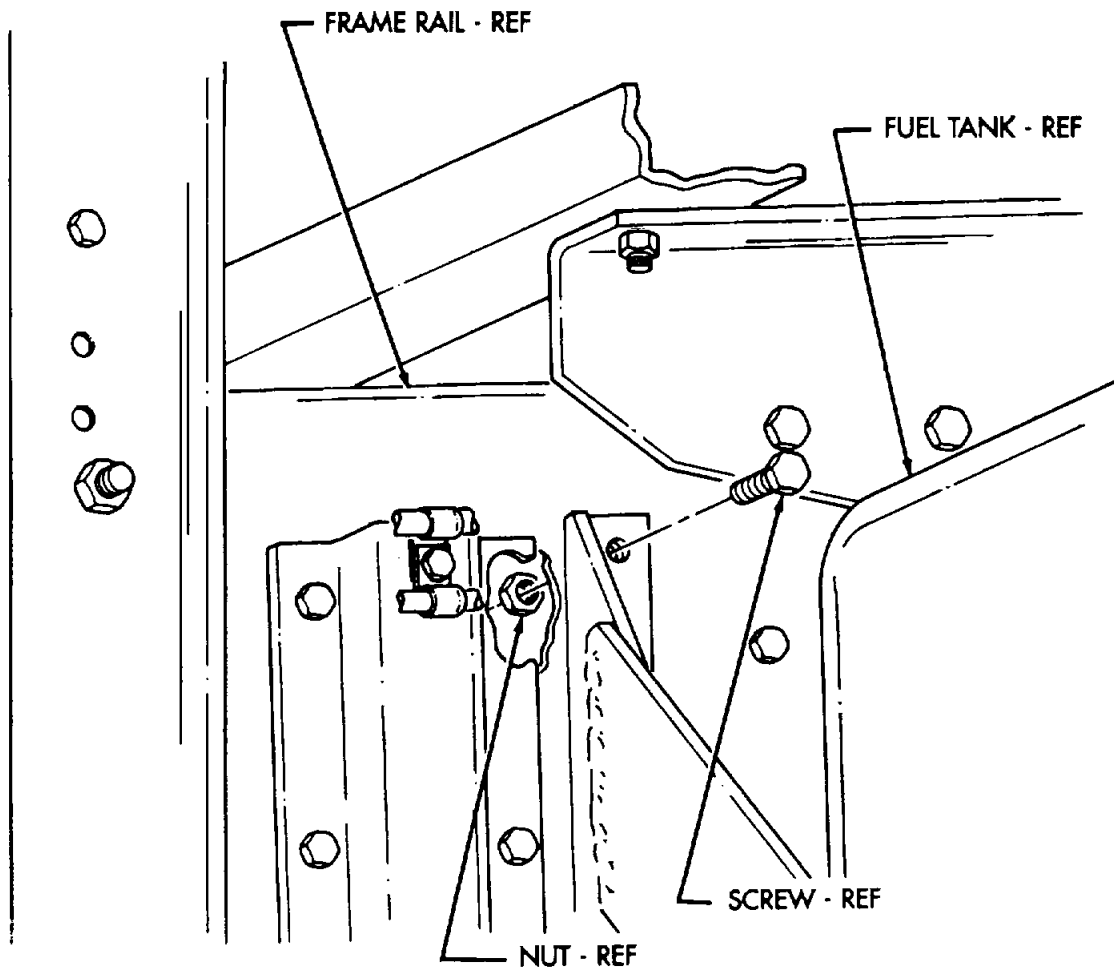

FIGURE 1
- (1) Disconnect battery ground cables (TM 9-2320-272-20-1).
- (2) Remove tachometer pulse sender unit (TM 9-2320-272-20-1).
- (3) Remove nut and screw from frame rail as shown in figure 1. Set nut and screw aside for disposition per para. 8.